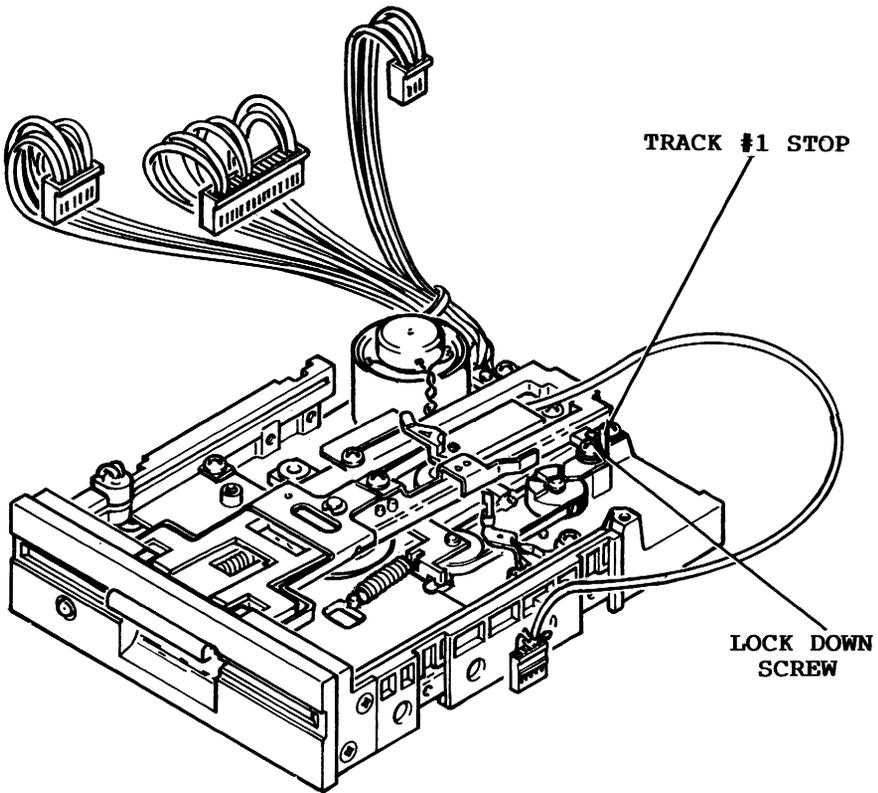

Figure 2-3. Track #1 Stop Adjustment.
6. Reconnect J1 to P1, J~~2~~⁸ to P~~2~~⁸, J5 to P5, J6 to P6 and J7 to P7 in such a manner that access is still allowed to the Track #1 Stop adjustment. (See Figure 2-3)
8. After the head settles and the Display T&S program begins displaying Track information, adjust the Track #1 Stop adjustment in the following manner (See Figure 2-3):